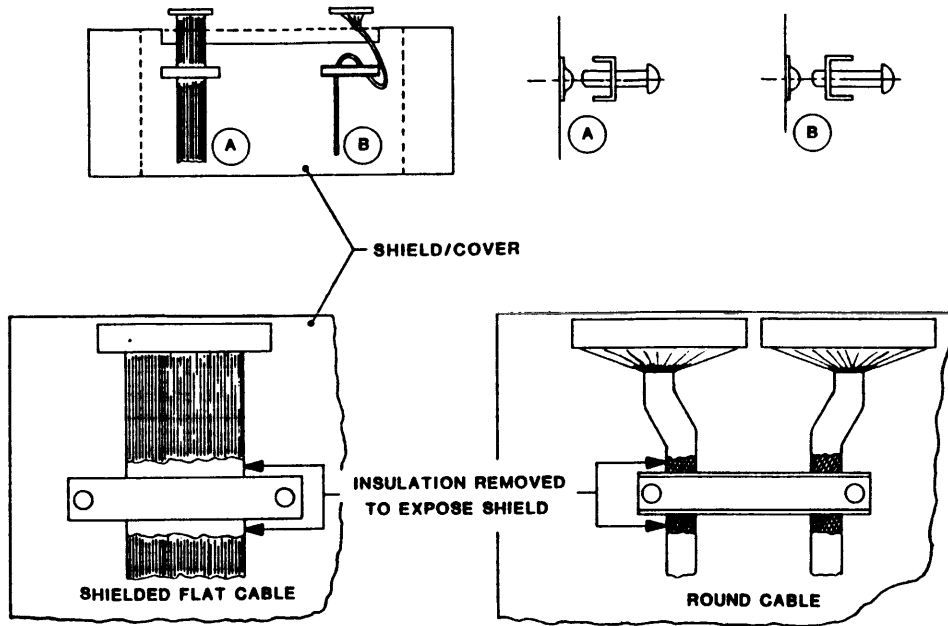
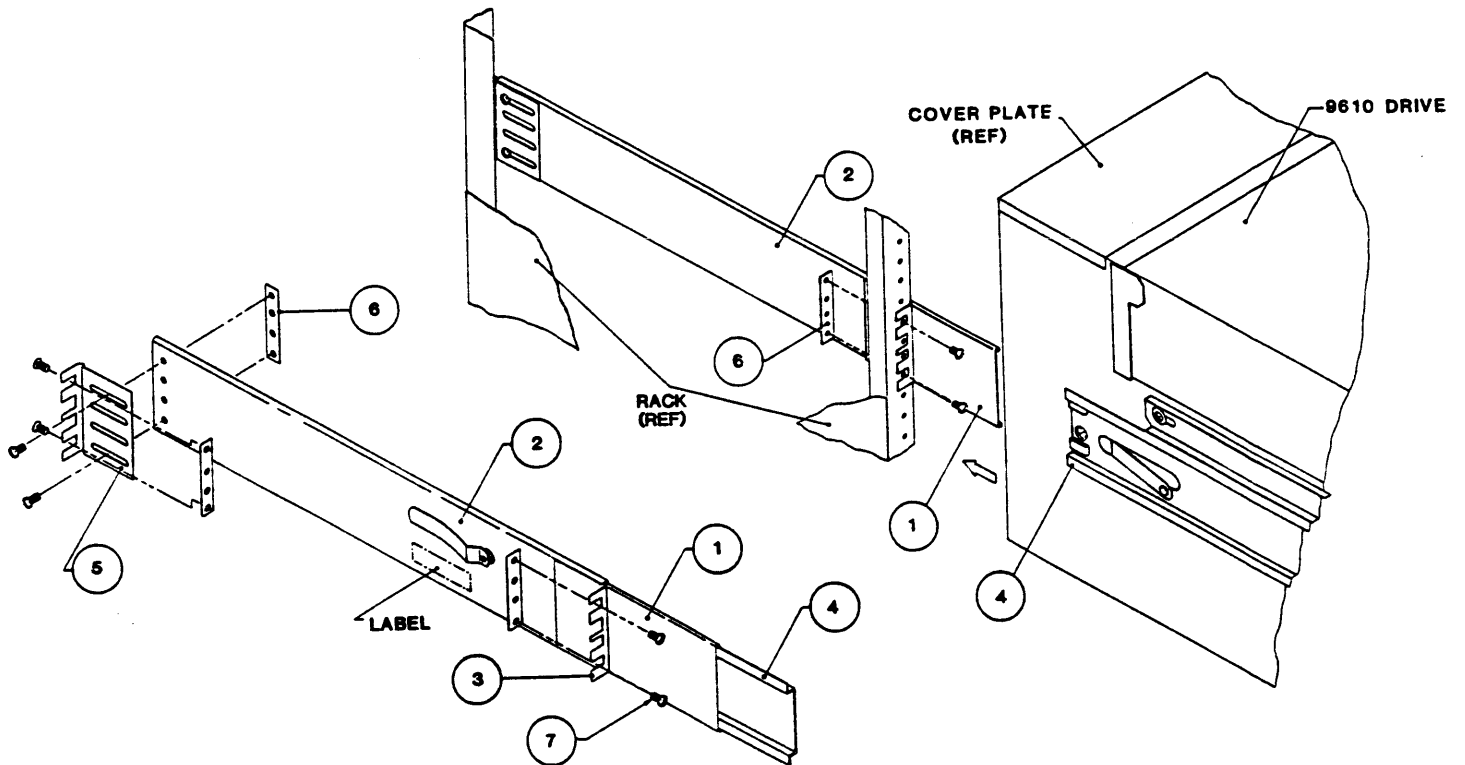

Figure 2-3. Grounding Cable Clamp Details
Figure 2-8. Track Subassembly
Recommended connectors and cables are as follows: - Daisy chains may optionally require a Cable Connector Adapter (See Figures 2-3 and 2-5).
- A. Install one of the Track Assemblies (Figure 2-8) on either side of the 19-inch Rack as follows:
- 1. Using the 10-32 Slotted Screws (7) and Nut Plates (6)* provided, loosely assemble an Adjustable Mounting Bracket (5) to the rear of the Right Track Assembly.
- 3. Aligning the bottom of the Fixed Mounting Bracket (3) at the 2-inch mark on the front of the 19-inch Rack, and using the 10-32 Screws (7) provided, mount the Fixed Mounting Bracket (3) to the front of the 19-inch Rack, and mount the Adjustable Mounting Bracket (5) (loosely attached to the rear of the Center Track) to corresponding holes in the rear of the 19-inch Rack. Level the Track and tighten all Screws.
- E. Remove about an inch of insulation from each Interface Cable at a point where the Cable will pass under the Grounding Cable Clamp(s). This will expose the cable shield. Run the Interface Cables under the Cable Clamp(s) as illustrated in Figure 2-3. Tighten the Clamp(s).